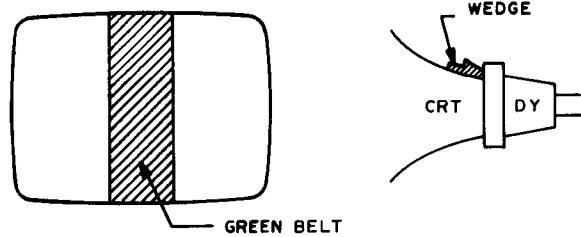

FIGURE 4
- 2.8 Pull the Deflection Yoke backward so that the Green belt will appear. (See Fig. 4)
2.20 Insert a wedge temporarily as shown in Fig. 4 and adjust the angle of the Deflection Yoke.